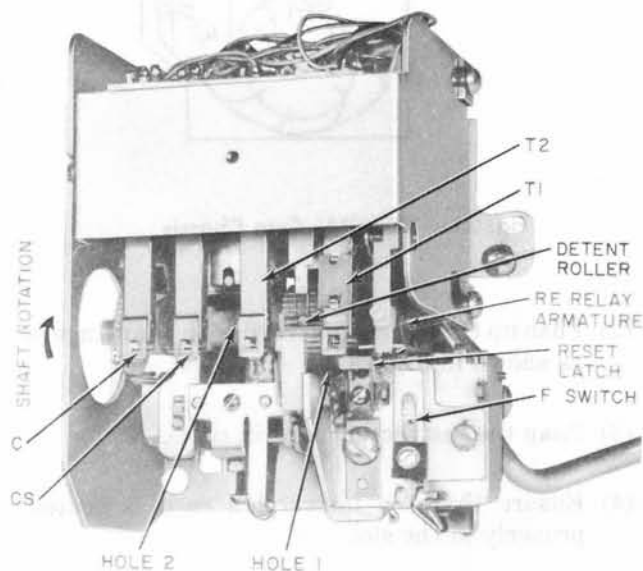

Fig. 23—Checking Chute Totalizer Rate (Typical)
in Fig. 23. To determine the chute totalizer initial rate setting, do the following:
- (1) Remove the chute totalizer from the set.
- (2) Loosen the retaining screw holding the dust cover and remove the transparent dust cover.
- (3) Rotate the shaft in the direction shown in Fig. 23 until the detent roller on the detent wheel is positioned between the two black marks. This occurs at the same time that T2 rests in the depression in the shaft. (This is called the "home" position.)
- (4) Release the reset latch by momentarily pressing downward on the armature of the RE relay as shown in Fig. 23.
- (5) Rotate the shaft slowly in the proper direction and count the steps until the T1 springs operate. (This is indicated by the forward movement of the reset latch.)
- (1) Rotate the shaft in the direction shown in Fig. 23 until it is in the "home" position. (The detent roller on the detent wheel is positioned between the two black marks.)